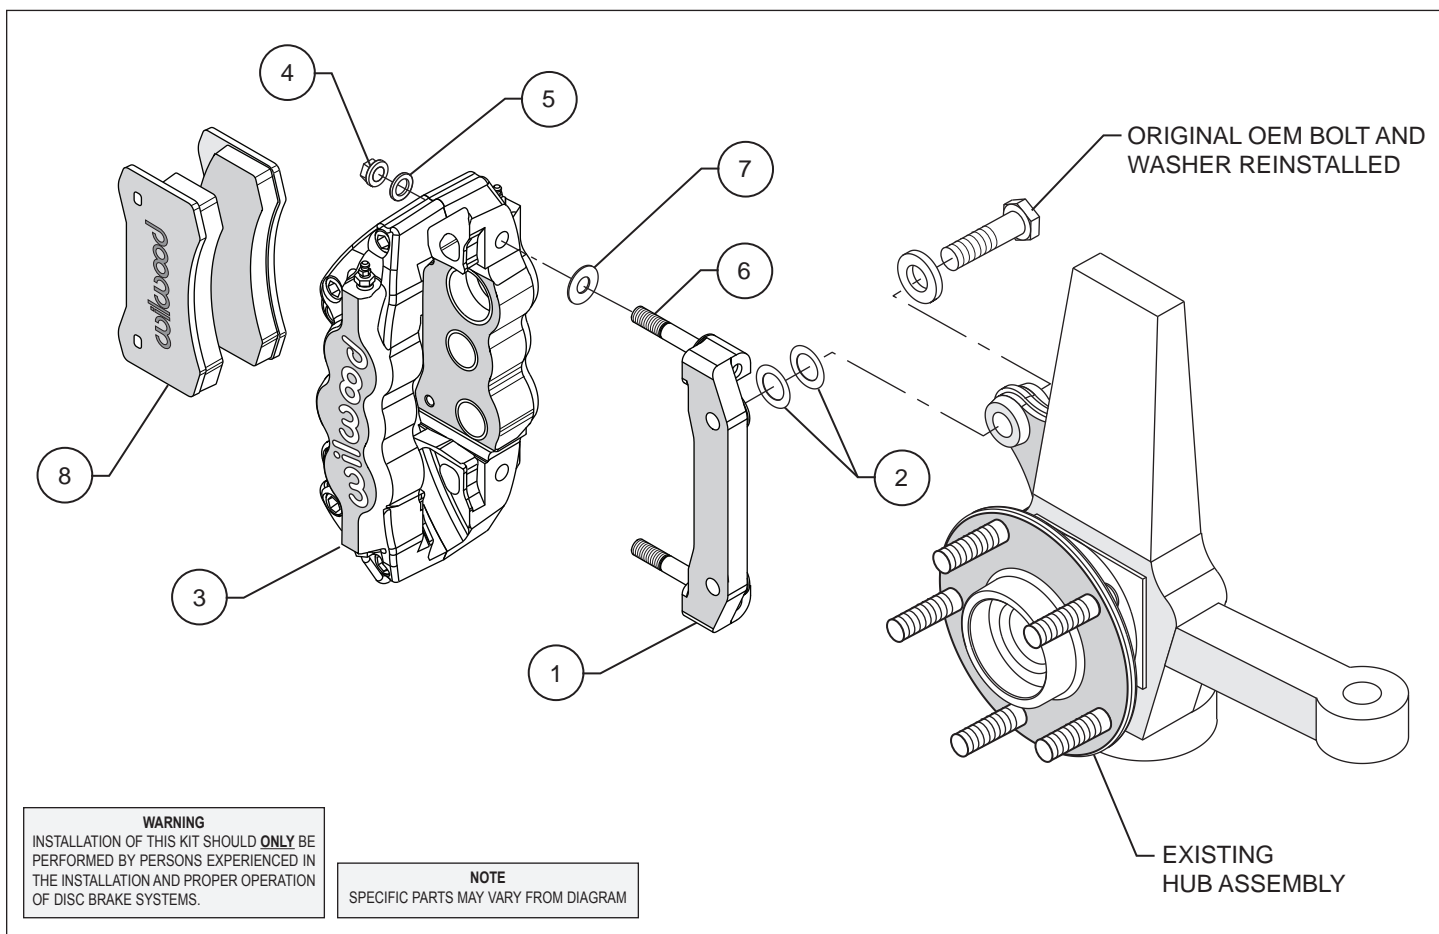

Figure 1. Typical Installation Configuration
Assembly Instructions (numbers in parenthesis refer to the parts list and Figure 1 on the preceding page):
• The caliper mount bracket (1) should initially be installed with clean, dry threads on the mounting bolts. Orient the bracket as shown in Figure 1, and install using saved OE bolts and washers. Initially place two .029" thick shims (2) on each bolt between the bracket and upright, Figure 1. Temporarily tighten the mounting bolts. **NOTE: The bracket must fit squarely against the mount bosses on the upright.** Inspect for interference from casting irregularities, machining ridges, burrs, etc. Later, after the caliper alignment has been checked, the mount bolts will be secured using red *Loctite*® 271.
- **NOTE:** This kit contains distinct right and left hand calipers that must be mounted in a specific direction, as described below. Lubricate the caliper mounting studs (6) with lightweight oil. Initially place one .016" thick shim (7) on each stud as shown in Figure 1 and Photo 1. With the bleed screws pointing up, mount the caliper (3) onto the bracket (1) using lock nuts (4) and washers (5), Figure 1. Ensure that the caliper is mounted so that the largest pistons are at the rotor exit end of the caliper, in relation to the direction of rotor rotation. Temporarily tighten the lock nuts and view the rotor through the top opening of the caliper. The rotor should be centered in the caliper, Photo 2. If not, adjust by adding or subtracting shims (2) between the bracket and the upright. Always use the same amount of shims on each of the two mounting bolts. Once the caliper alignment is correct, remove the bracket mounting bolts one at a time, apply red *Loctite*® 271 to the threads, and torque to 65 ft-lb.